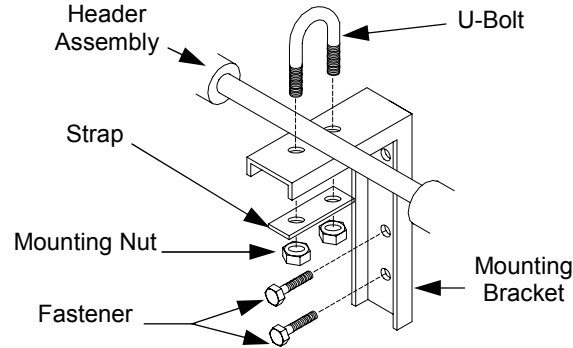

Figure 6
2. Position the brackets so that the top of the bracket is aligned with the bottom of the headers and is centered between the cylinder connections. The brackets should be evenly spaced with the end bracket placed as close to the last cylinder as possible to provide the most support and stability. (Figure 6)
3. Mark the mounting hole and install fasteners suitable for type of wall construction. (Figure 6)
4. Fit the U-bolt over the header piping, through the bracket strap, and tighten the two mounting nuts. (Figure 6)